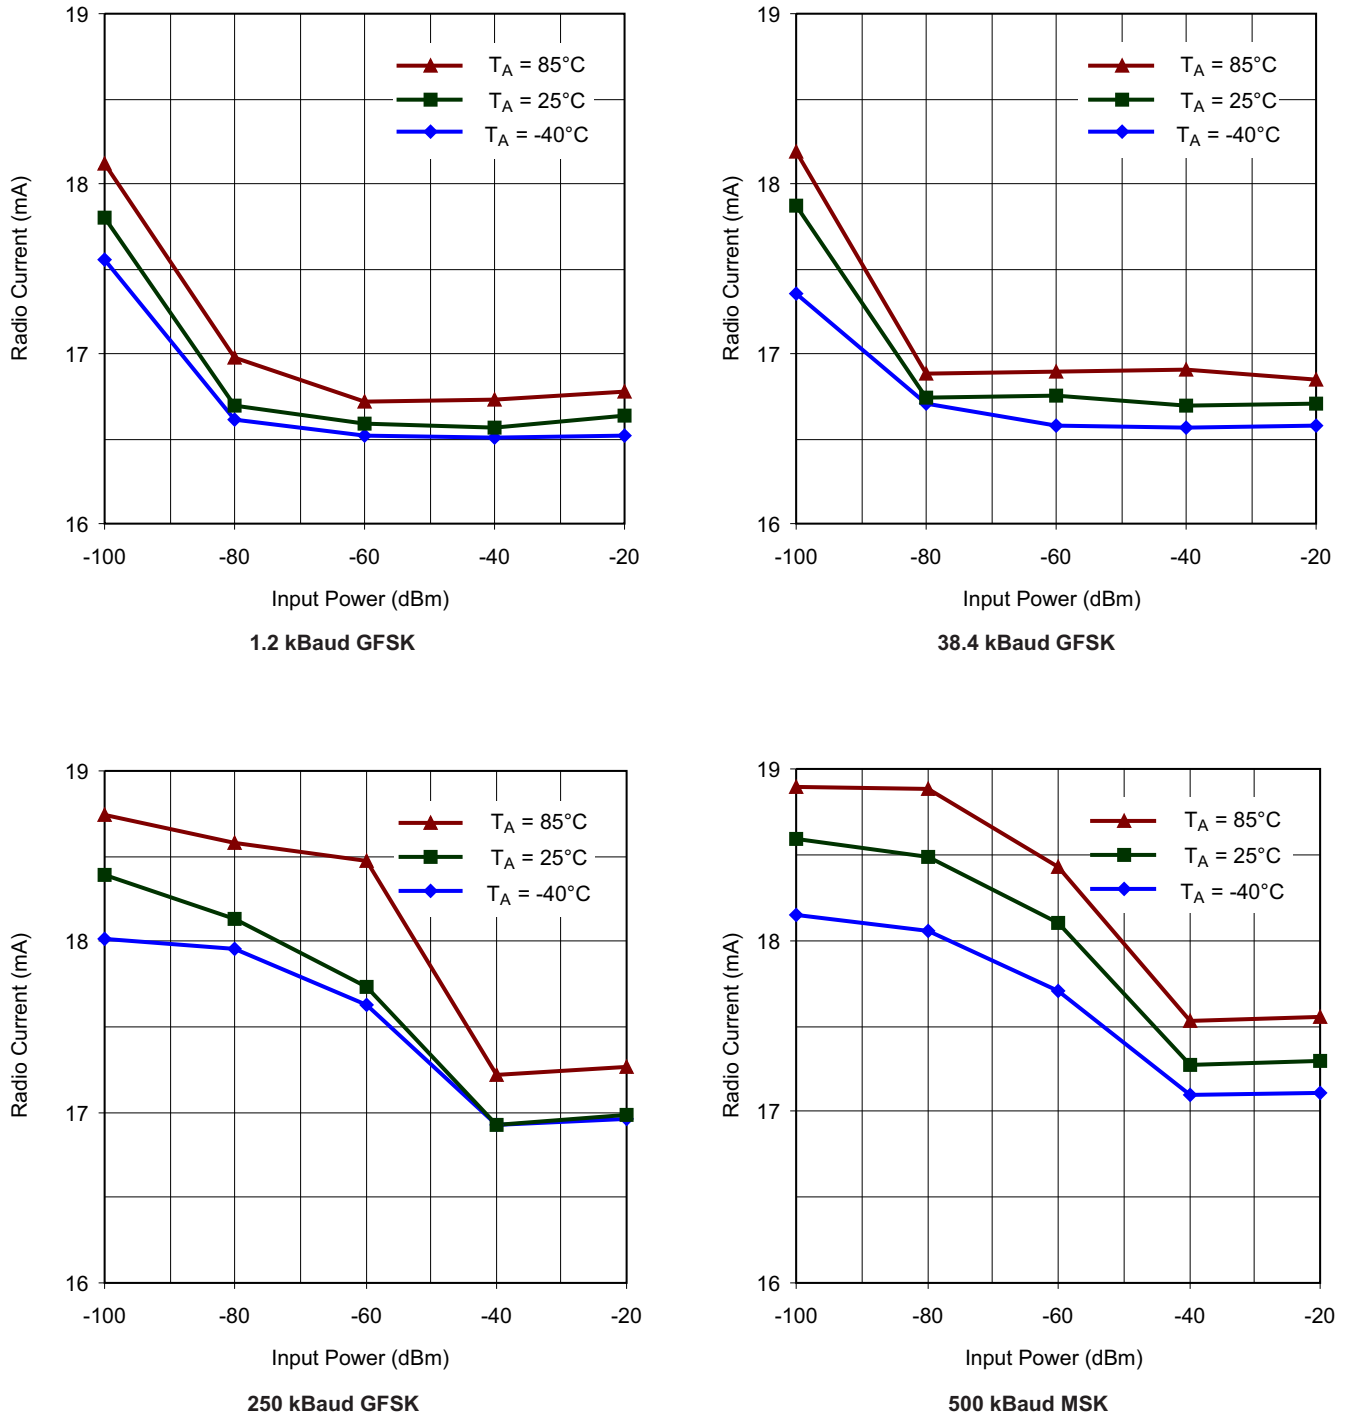

Figure 5-22. Typical RX Current Consumption Over Temperature and Input Power Level, 868 MHz, Sensitivity-Optimized Setting
(1) All measurement results are obtained using the EM430F6137RF900 with BOM according to tested frequency range (see Table 7-1).
(2) Reduced current setting (MDMCFG2.DEM_DCFLT_OFF = 1) gives a slightly lower current consumption at the cost of a reduction in sensitivity. See Section 5.53 through Section 5.56 for additional details on current consumption and sensitivity.
(3) For 868 or 915 MHz, see Figure 5-22 for current consumption with register settings optimized for sensitivity.